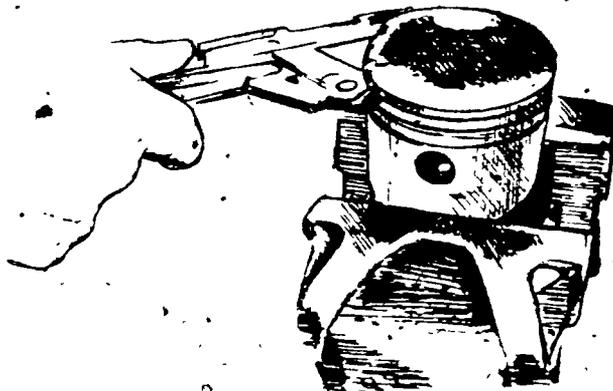

FIGURE 2
- D. Clean carbon from ring grooves with special cleaner (Figure 2)